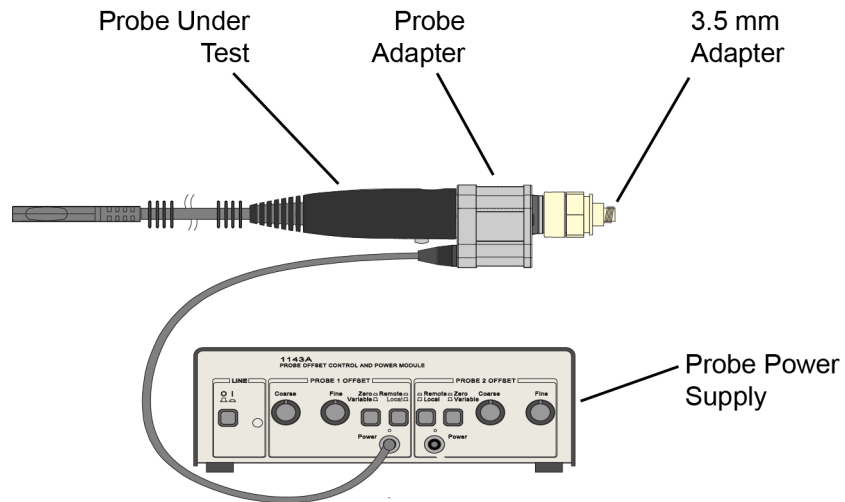

Figure 16 Probe Connected to Probe Adapter (*not to scale*)
- 6 Connect the probe under test to the AutoProbe Adapter and power the probe using the 1143A power supply as shown in **Figure 16** on page 41. Install the outside thread adapter to the AutoProbe Adapter.